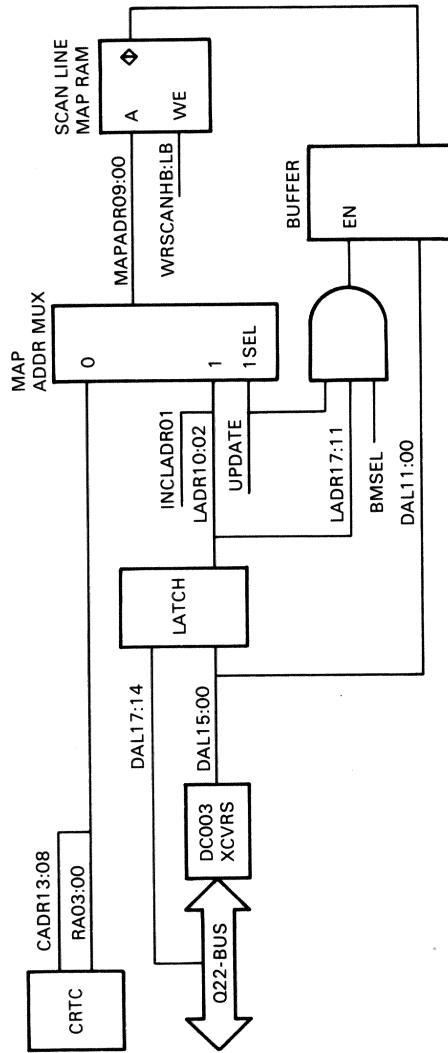

Figure C-13 Scan Line Map Write (Update)
C.1.5.5. Scan Line Map (Update) – The 864 video memory addresses to be read for video refresh are stored in the scan line map. (Figure C-13)